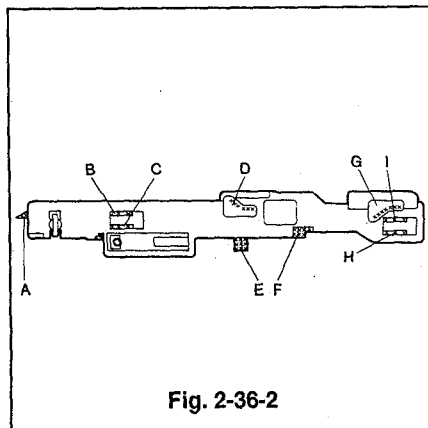

Fig. 2-36-2
- 1 Apply specified grease to the area (A-I) shown in Fig. 2-36-2 of the new cam plate-C.